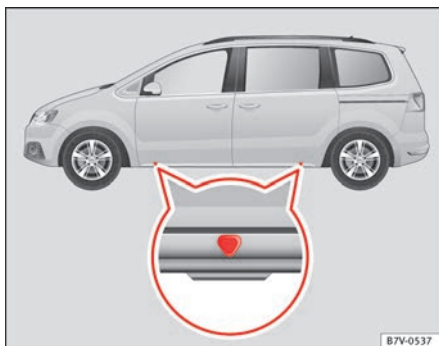
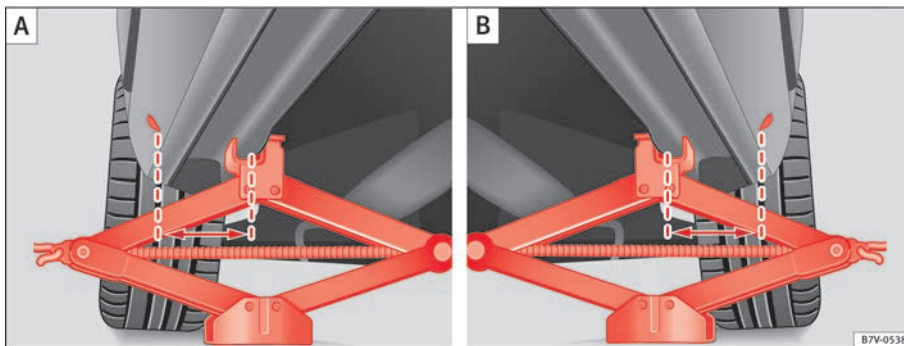

Fig. 183 Jack position points
Fig. 184 (A): jack mounted on the left front part of the vehicle (B): jack mounted on the left rear part of the vehicle.
The jack may be applied only at the jacking points shown (marks on chassis) ⇒ fig. 183. The mark indicates the jacking points **below** the vehicle. The jacking points are on the ribs **behind** the front edges ⇒ fig. 184. Always the relevant jacking point for the wheel to be changed ⇒ ⚠.
5. Look below the vehicle for the jacking point ⇒ fig. 183 closest to the tyre which has to be changed.
7. Ensure that the foot of the jack is firmly on the ground and that it is placed immediately below the lifting point on the vehicle ⇒ fig. 184.
8. Straighten the jack and continue raising it using the handle until the claw holds the vertical reinforcement beneath the vehicle ⇒ fig. 184.
- Only fit the jack at the prescribed jacking points. The claw of the jack should grip the reinforcement nerve on the underbody ⇒ fig. 184.